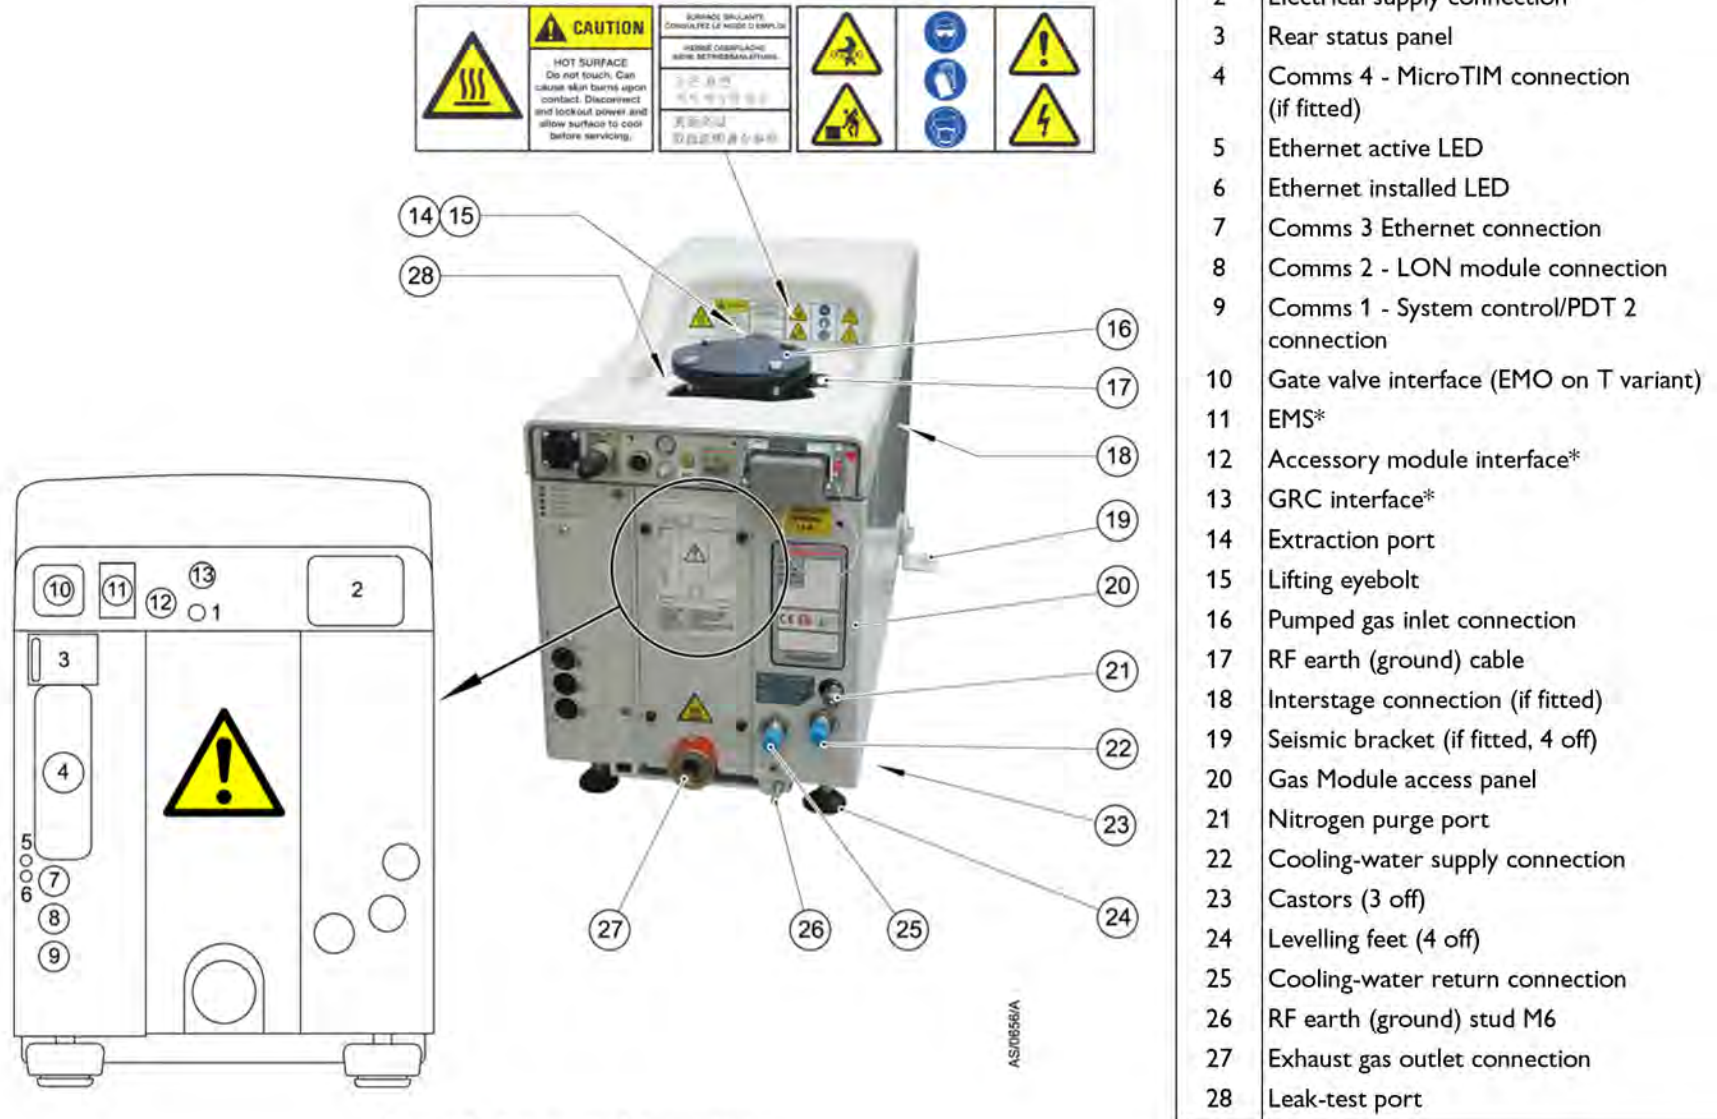

Figure 2 - The controls/connectors
1. Use suitable lifting equipment (refer to Figure 2) attached to the lifting eyebolt (15) to move the iGX system close to its final operating position.
2. Adjust the levelling feet (24) to make sure that the iGX system is level and is not supported by the castors. The lifting eyebolt must be retained for future use with this system.
- The iGX system seismic brackets (Figure 2, item 19) are designed to withstand a level 4 earthquake in a ground floor installation.
Refer to Figure 2, items 16, 18 and 27. Use the following procedure to connect the inlet and exhaust of the iGX system to your vacuum inlet and exhaust pipeline:
2. Use the O-ring supplied and suitable nuts, bolts and washers (not supplied) to connect the inlet-flange (Figure 2, item 16) of the iGX system to your vacuum system.
3. Use the NW25 trapped O-ring and clamp supplied to connect the exhaust outlet (Figure 2, item 27) on the exhaust pipe, to your exhaust extraction system.
4. Use the NW16 trapped O-ring and clamp supplied to connect the interstage connection (Figure 2, item 18) if fitted.
Refer to Figure 2, item 27.
Refer to Figure 2, item 21.
Refer to Figure 2, item 28.
Refer to Figure 2, item 2.